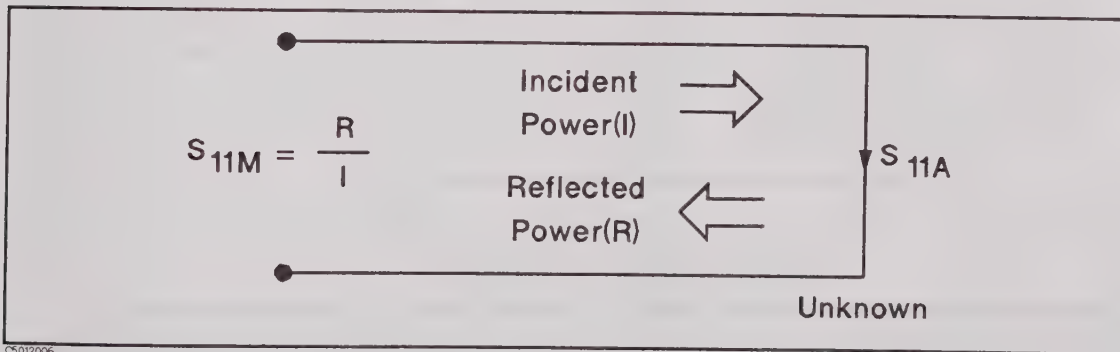

Figure A-27. Reflection Coefficient
Measuring reflection coefficient. The reflection coefficient is measured by first separating the incident signal (I) from the reflected signal (R), then taking the ratio of the two values (Figure A-27). Ideally, (R) consists only of the signal reflected by the test device (S_{11A}).